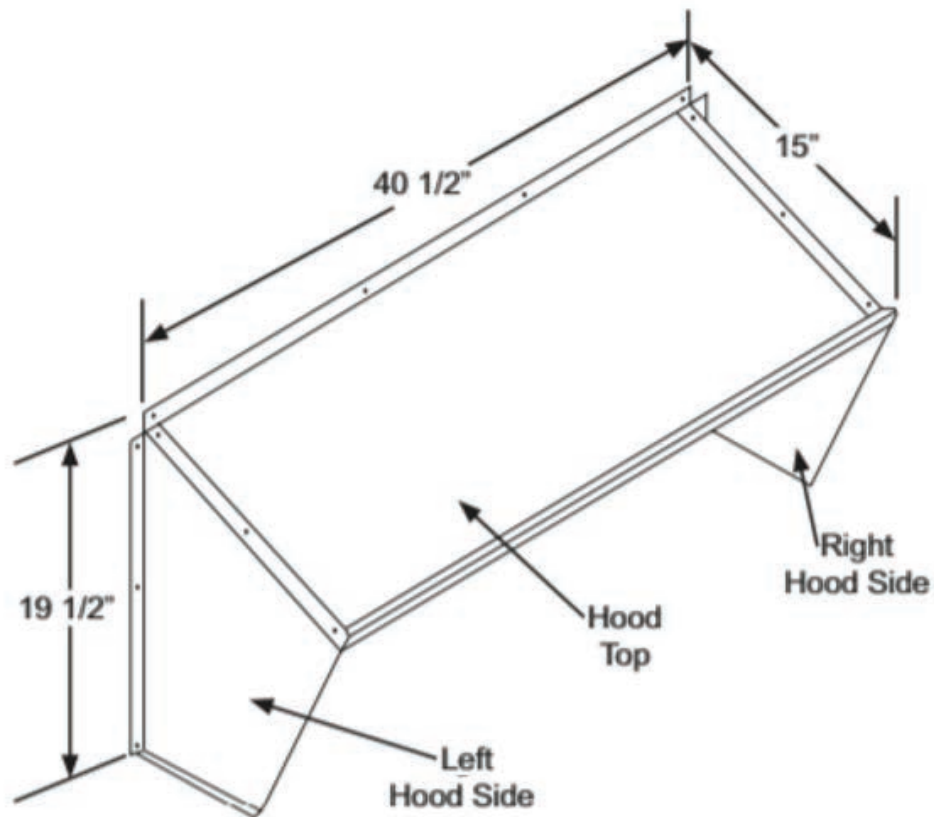

Fig. 37 — CRBARHOD001A00 Hood Sides and Top
5. Using the provided hardware, screw the CRBARHOD001A00 hood sides and top together. (See Fig. 37.)